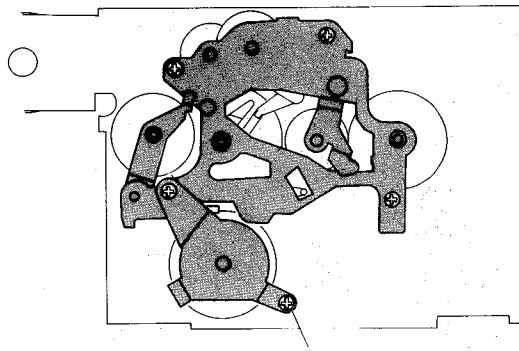

Fig. 10
- 3) Disconnect the black lead-wire and remove the bottom plate assembly. (See Figure 10.)
- 1) Remove the bottom plate assembly. (See Figure 10.)